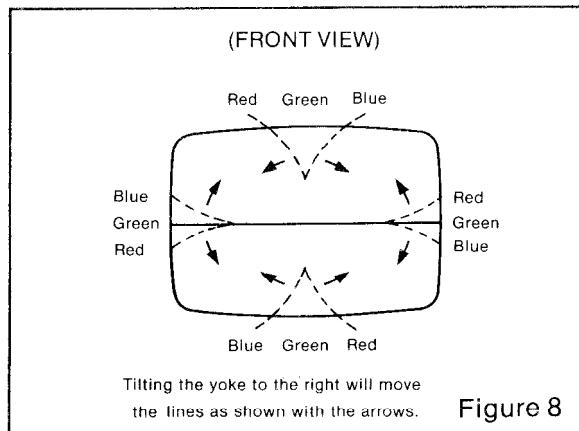

Figure 8
- 2.7 Adjust convergence around the edges of the picture tube by tilting the yoke up-down and left-right to converge RED, GREEN, BLUE Lines (In Fig. 8)